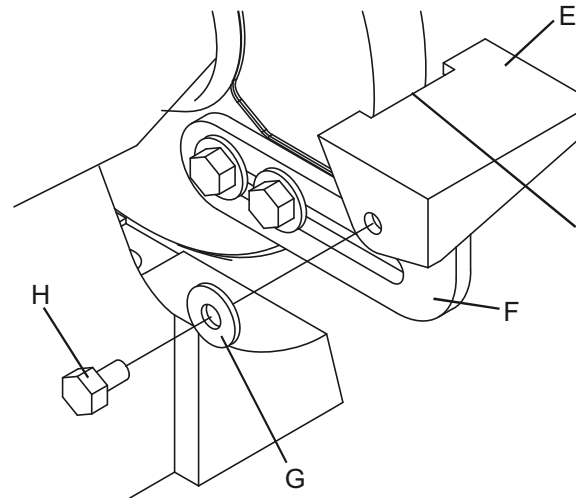

Figure 4 - Assemble Tool Rests to Supports
2. Assemble the Tool Rests (E) to the Supports (F) with the flat washers (G) and hex head screws (H) as shown. See Figure 4.
3. Adjust each Tool Rest until its inside edge (I) is 1/16" from the grinding wheel. Firmly tighten the hex head screws holding the supports. See Figure 4.